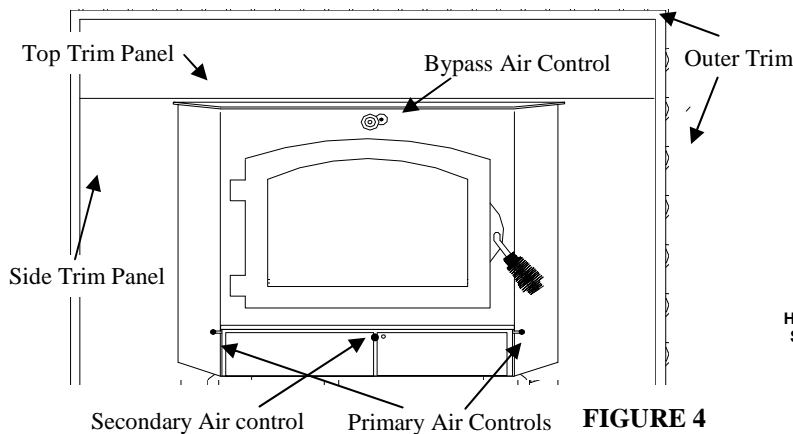

FIGURE 4
9. Obtain the brass trim kit provided with insert kit and slip over the top and sides of trim panels. Top ends of brass may need to be trimmed to fit (See Figure 4).
Damper Bypass Control: The damper bypass control is located at the center top of stove. To close push in, to open pull out. (See Figure 4).